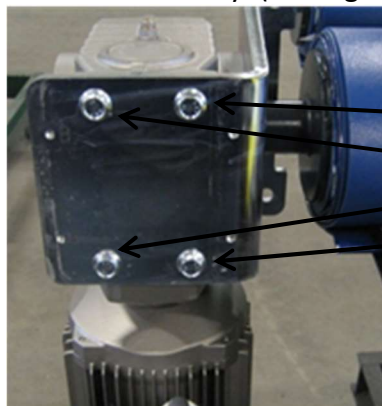

Figure 1
2. Remove the motor from the drum assembly. (See Figure 1.)
13. Bolt the motor bracket to the motor mounting bracket. Four bolts shown in figure 1.